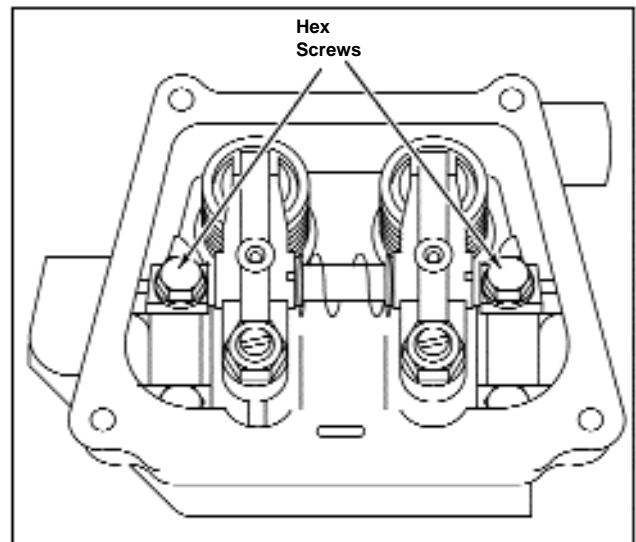

**Figure 87 - Removing Rocker Nuts, Typical**
1. If valve seats will be reconditioned, loosen rocker arm screws and remove rocker arm nuts, and rocker arms, Figure 87.